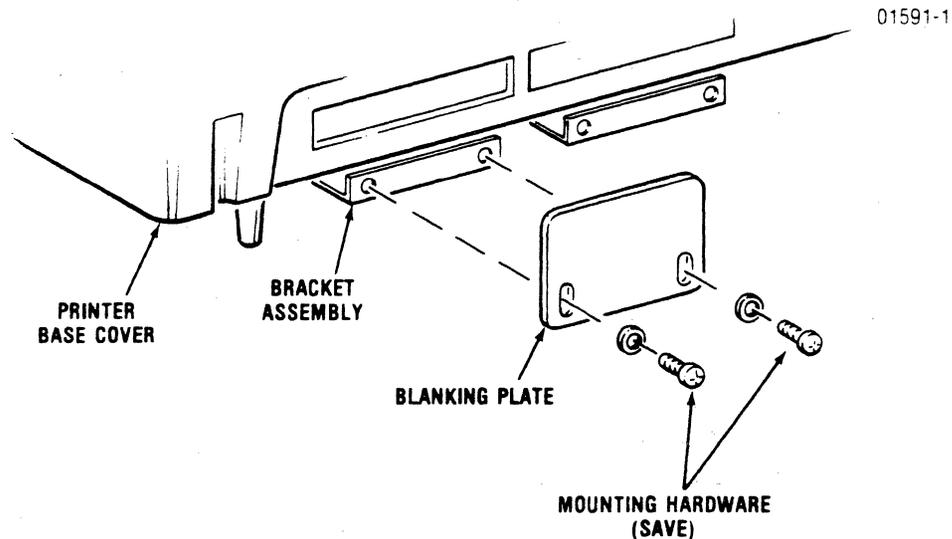

Figure 4-1 Removing the Blanking Plate
5. Remove and save the two screws, and lock washers, fastening the blanking plate to the bracket assembly (Figure 4-1). The hardware is used to install the kit.